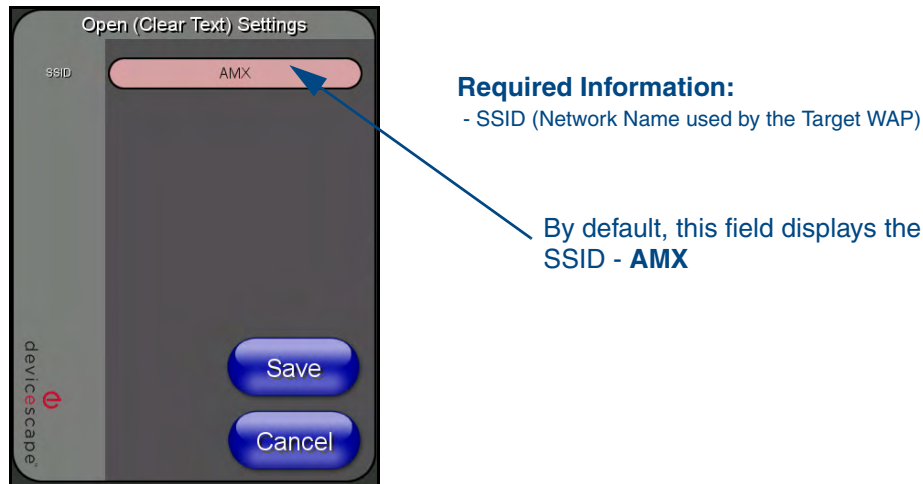

FIG. 19 Wireless Settings page - Open (Clear Text) security method
3. From within the Wireless Security section, press the **Open (Clear Text)** button to open the Open (Clear Text) Settings dialog (FIG. 19). An Open security method does not utilize any encryption methodology but does require that an SSID (alpha-numeric) be entered. Using this method causes network packets to be sent out as unencrypted text.
4. Press the red **SSID** field (FIG. 19) to display an on-screen *Network Name (SSID)* keyboard.
7. From the Open (Clear Text) Settings page (FIG. 19), press the **Save** button to incorporate your new information into the panel and begin the communication process.